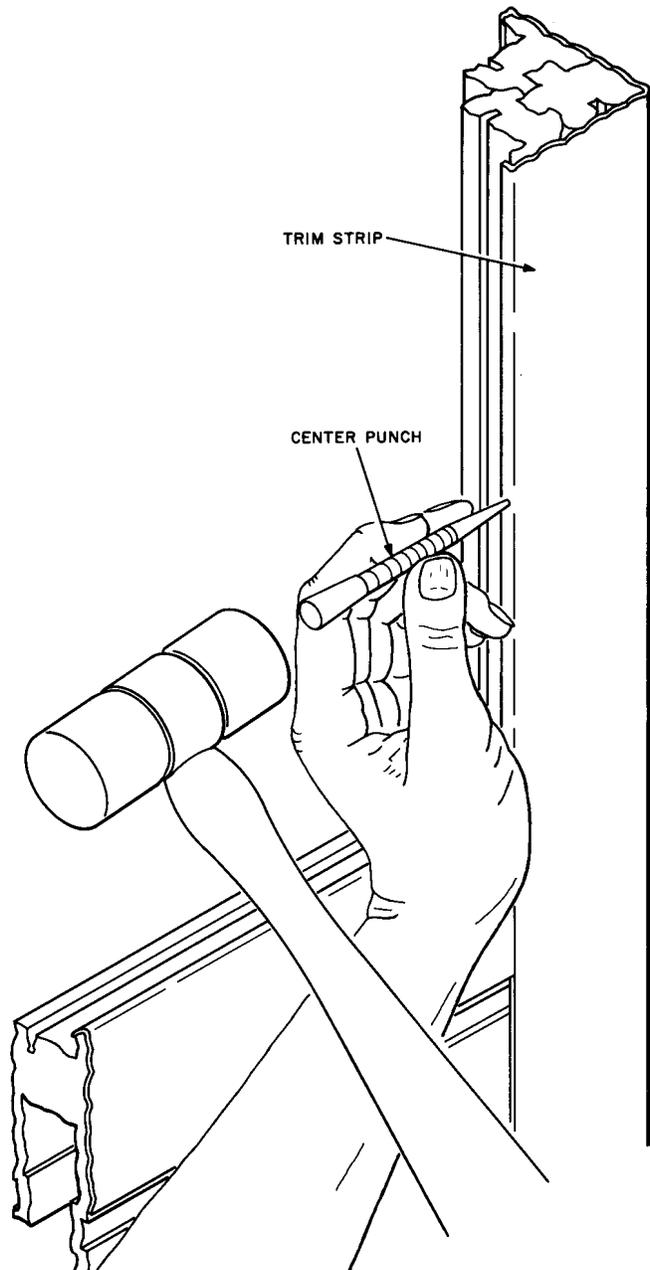

Fig. 17—Method of Crimping Trim Strips
(7) Crimp the top edge of the T6 trim strip approximately every 6 inches using RS-14770 soft face hammer and a center punch (Fig. 17).
- (7) Crimp the top edge of the T5 trim strip approximately every 6 inches using RS-14770 soft face hammer and a center punch (Fig. 17).